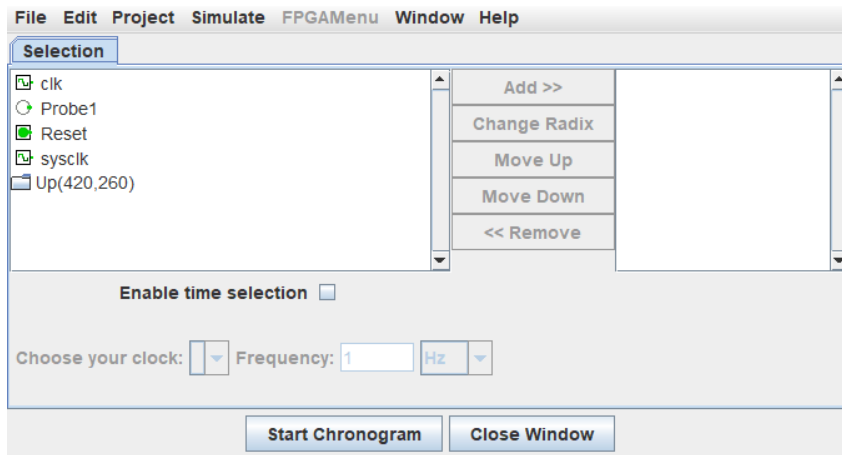

Figure 7.8: Set Up Chronogram
4. Click SIMULATE -> CHRONOGRAM to set up the *chronogram*. Figure 7.8 illustrates the initial setup screen for the *chronogram*.